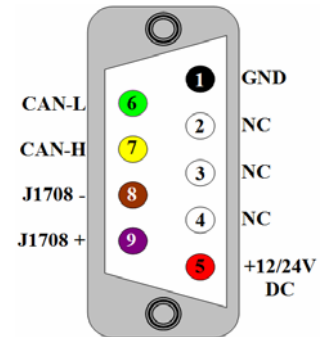

Figure 2 - BUS side DB9 male connector
- One BUS interface (DB9 male connector): can be connected to J1939/CAN, J1708/J1587 network, and a power supply (+14.2V DC nominal). The pin-out of the DB9 male "BUS" interface is illustrated in Figure 2.